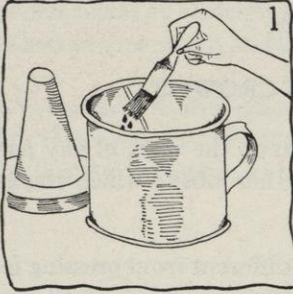

FIG. 1.
- a. Dip brush into sizing, then be sure to wipe it off well against the side of the can before applying it to your crown (see Figure 1).